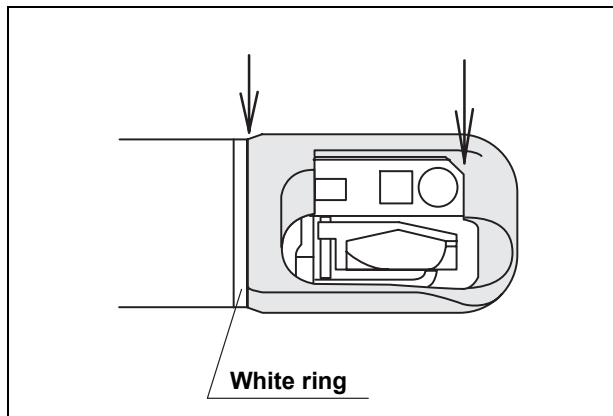

Figure 3.19
6. Confirm that there are no gaps between the distal end of the endoscope and the distal cover at the two positions indicated by the arrows in Figure 3.19.